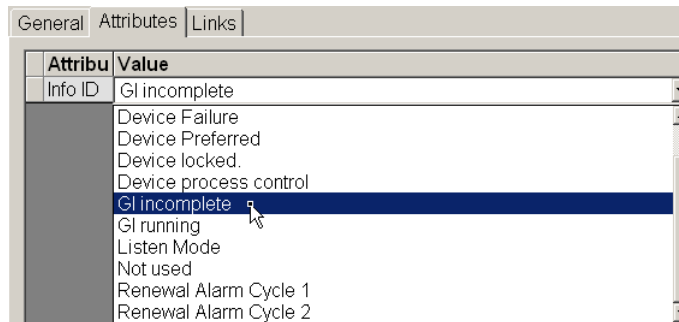

Figure 3-2.37: Attributes of the Instance Type 'Cfe Status' with Selected Info ID 'GI incomplete'
4. Select tab **Attributes** and choose the desired Info ID, in this example it is 'GI incomplete' (Figure 3-2.37)